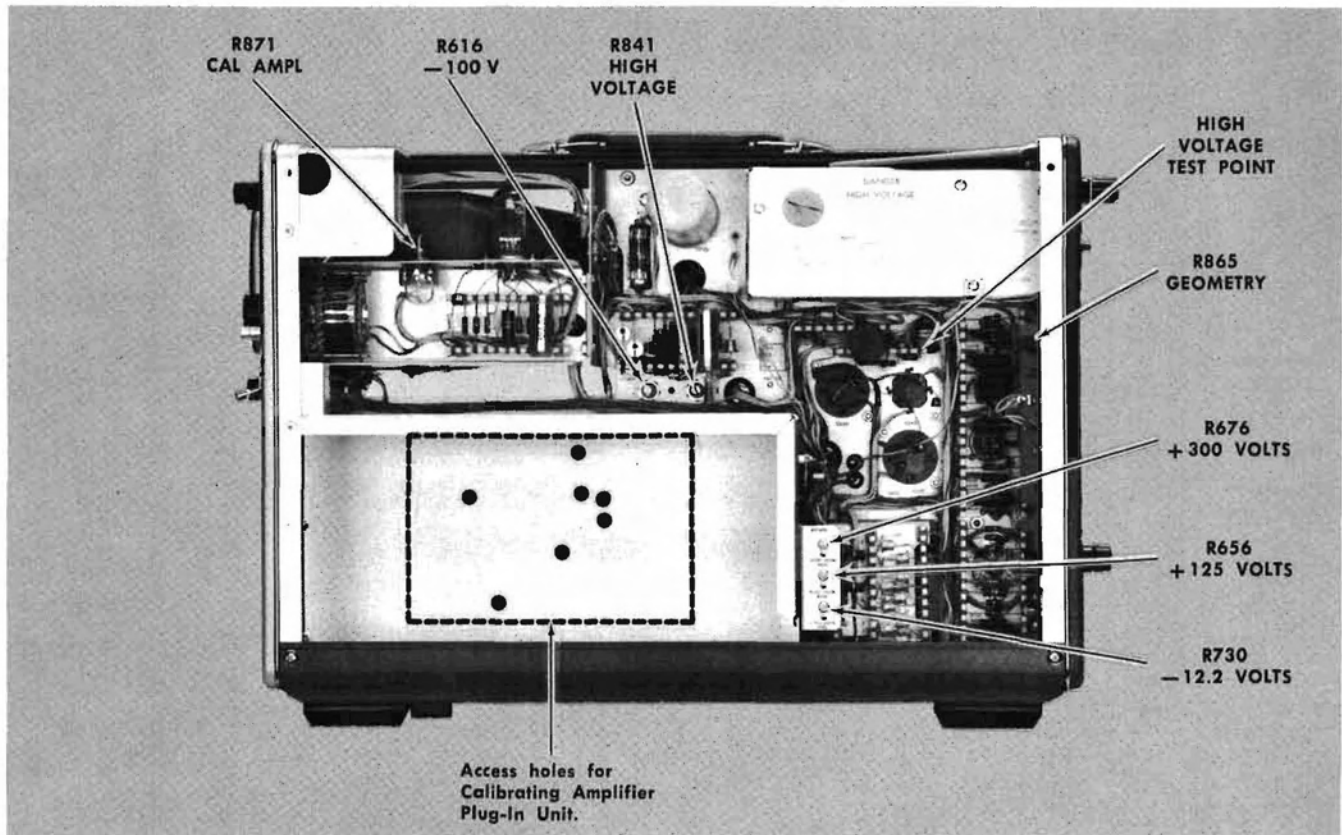

Fig. 5-1. Calibration adjustments in Type 506 (right-side view).
The location of the calibration adjustments in the Type 506 is shown in Fig. 5-1.
- Connect the dc voltmeter between the HV TEST POINT (see Fig. 5-1) and ground.